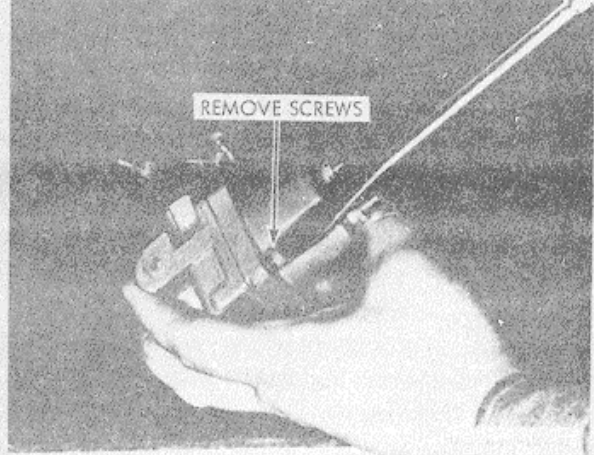

Figure 3-33. Screw removal from shutdown valve
(1) Remove screws and lockwashers securing coil housing to valve housing (fig. 3-33).